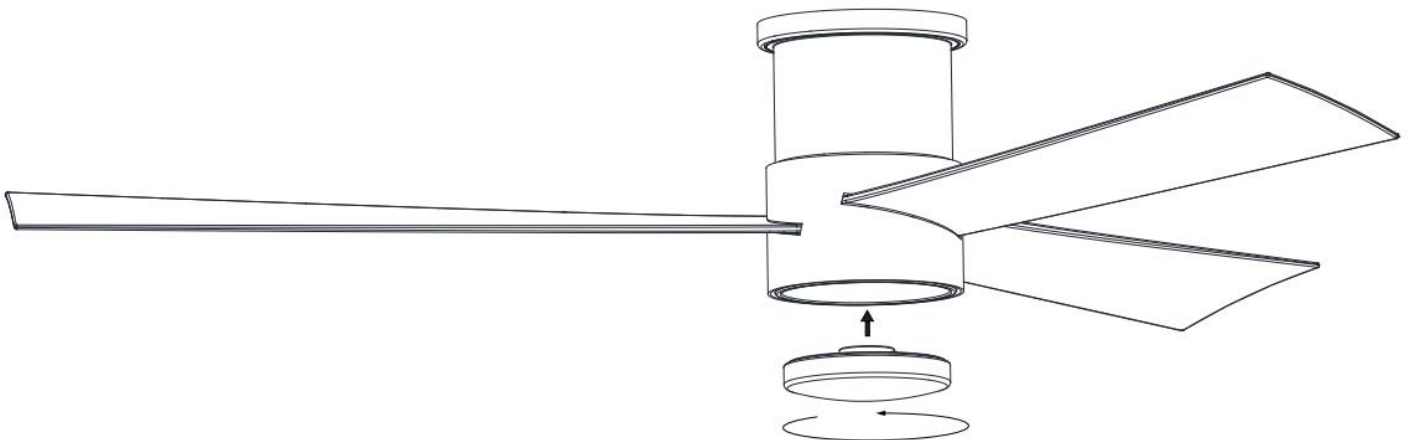

Fig. 9
- Install the lamp on the fan assembly, then secure it by turning clockwise. (Fig. 9)